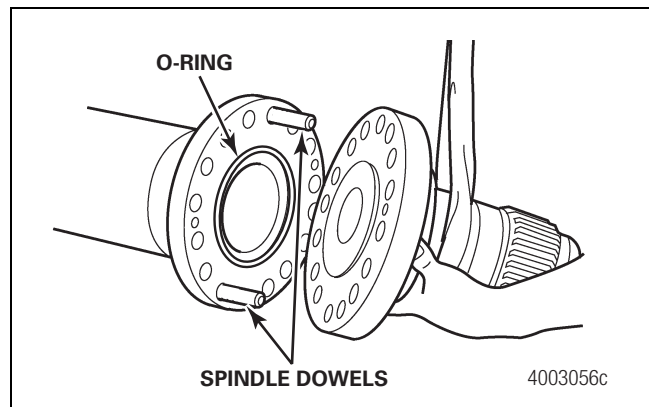

Figure 5.15
2. Use a lifting device to support the spindle as it is installed onto the two spindle dowels. Figure 5.15.